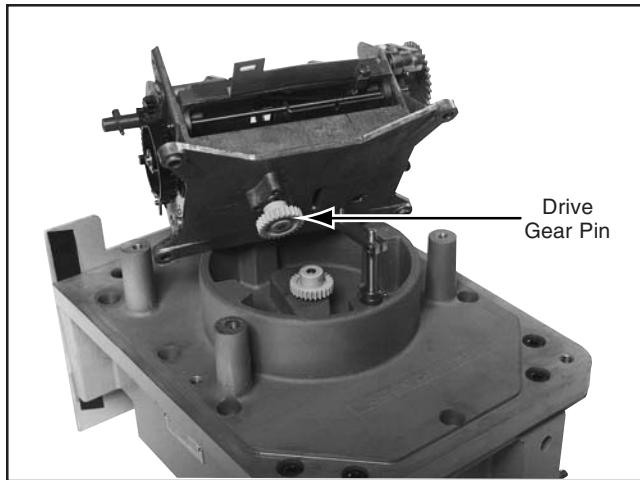

Figure 11 — Drive Gear Removal
2. Remove the drive gear from the defective unit by removing the pin retaining the gear to the shaft (Figure 11). Reinstall gear on replacement unit.